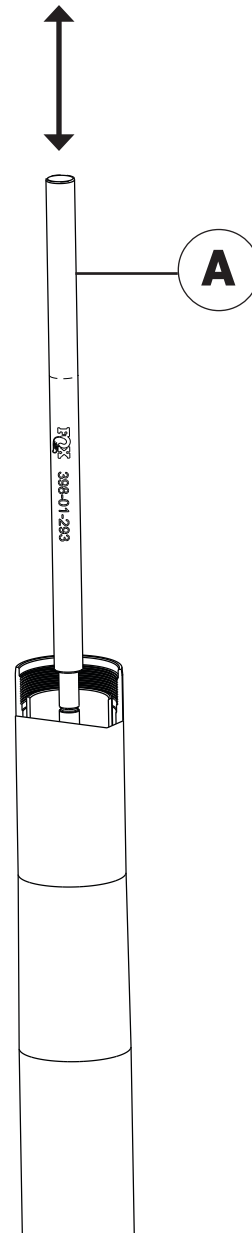

Fig. 10: Cartridge shaft bleed tool installed (A); bleed air out of cartridge by cycling the shaft.
7. Bleed air from the cartridge by cycling the shaft to full compression and full extension 10 times (Fig. 10 arrows).